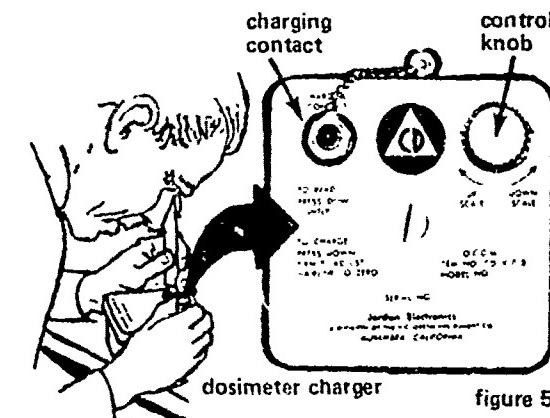
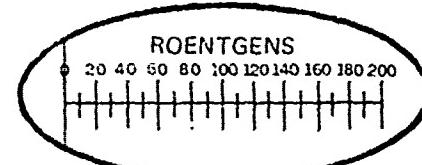

figure 5
figure 6
3. Position the charger on a flat surface such as a table. Unscrew the cap on the charging contact and place end of the dosimeter opposite pocket clip and eye piece on charging contact of charger. (See fig. 5)
4. Apply downward pressure and you should see a meter scale and a line while looking through the dosimeter. If no line is visible, rotate the control knob, located in the upper right hand corner—(figure 5), until a line appears.
5. Set line to or near zero (figure 6) by turning control knob (figure 5).